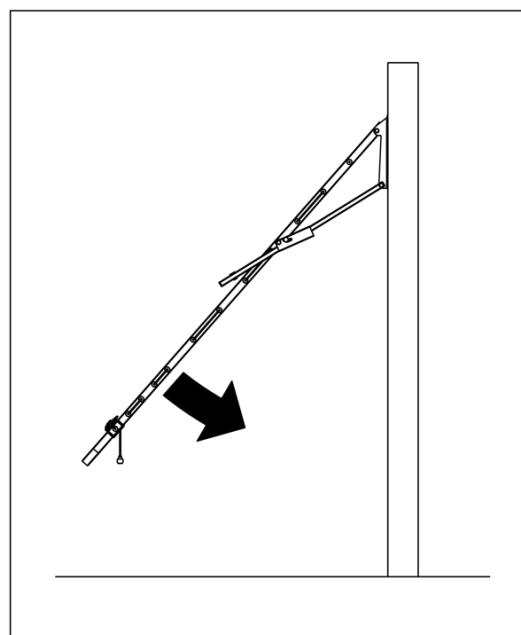

Fig 13. Lower the clothesline.
- The clothesline can now be lowered all the way. (Fig 13)